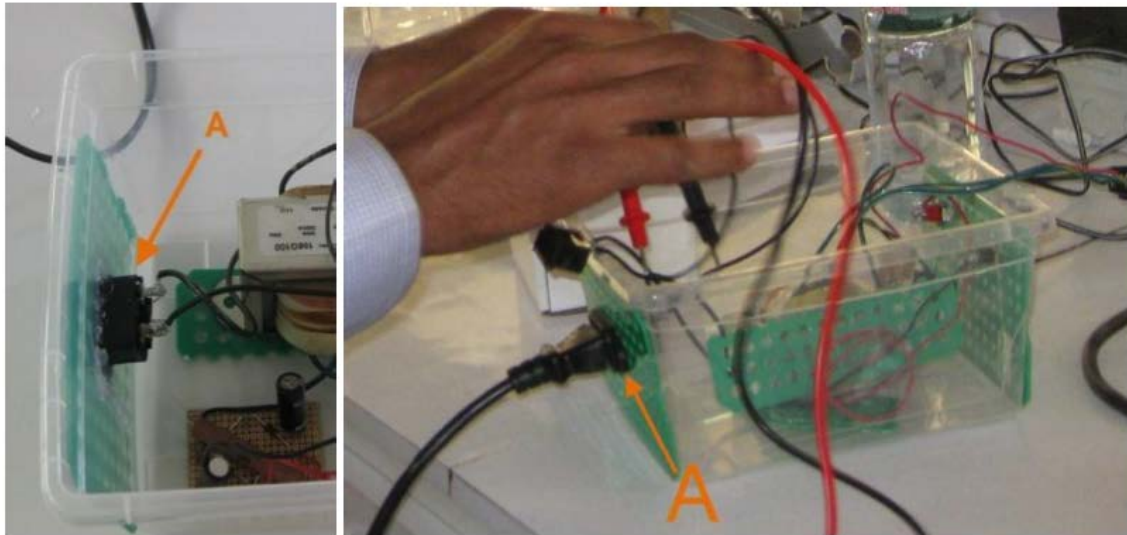

Figure 2: Illustrates the location of: A) the male pin connector receptacle attached to the clear LDPE non-conducting container
2) On the opposite side of the container, a single hole approximately 30mm L x 15mm W was cut with a retractable utility knife and was prepared for the installation of the male pin connector receptacle (AC Inlet 2.8 mm) identified as "A", in Figure 2.